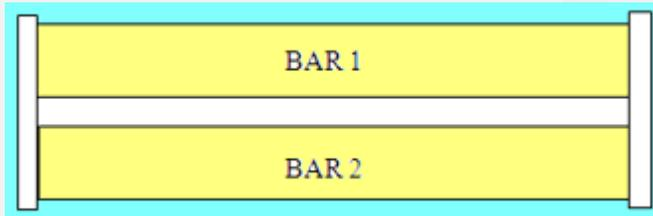

Figure 2.3. Parallel Composite Bars
A composite series bar is made by copper and steel with diameter of 30mm and length of 0.5m respectively as shown in Figure 2.3 below. If end of both bar are subjected to axial tensile load of 10kN, determine;
- Figure 2.3 below shows the bars in parallel connection. Extension or shorten of the both bars is the same.